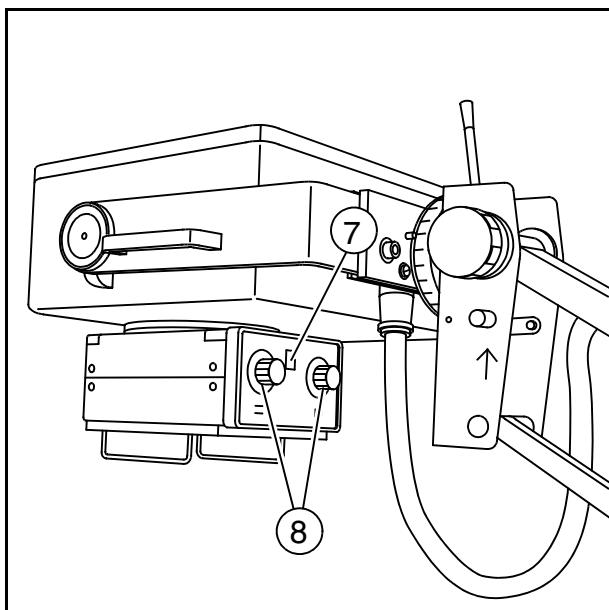
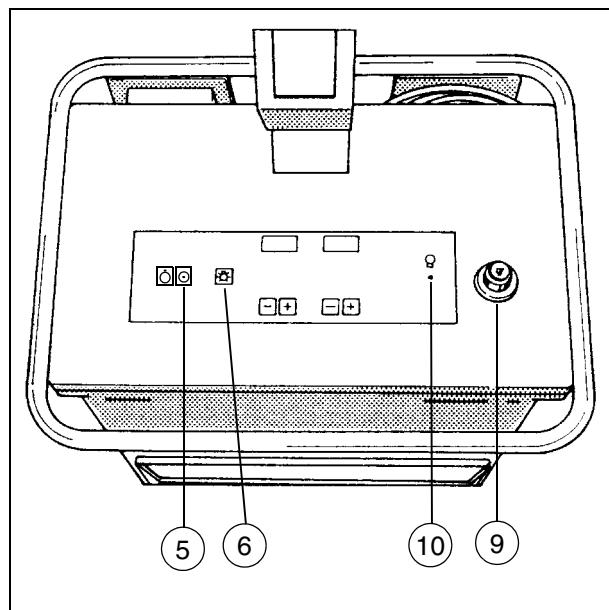

Fig. 3
Fig. 4
- Press the ON button on the control console  (5/Fig. 4).
To do this press the button (6/Fig. 4 or 7/Fig. 3); the light localizer lamp lights up for $20\text{ s} \pm 1\text{s}$.
- By turning the diaphragm setting knobs (8/Fig. 3) check the easy movement and uniformity of the format setting (leaf pairs).
- Pull out the exposure release switch (9/Fig. 4) completely.
The radiation indicator (10/Fig. 4) lights up for the duration of the exposure, an acoustic signal sounds at the same time.
- Check that the cable of the exposure release switch (9/Fig. 4) rolls back in without difficulty after it is pulled out.
To do Release exposure. The radiation indicator (10/Fig. 4) lights up.